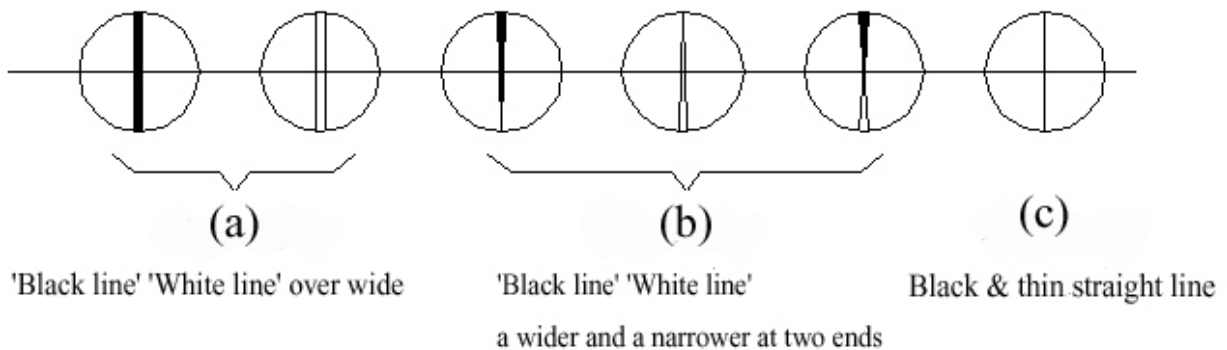

Figure 7
The separation line should be a thin, black and straight, as is shown in Figure 7-(c). Turning the Separation Line Adjusting Knob (13) can move the comparison line continuously to have a single, cutting or overlapping view field.
If the separation line appears as is shown in Figure 7-(a) or Figure 7-(b), this means the line has changed out of shape and needs to be adjusted by the following steps:
1. Insert the screwdriver that comes with the microscope into the screw slit in the calibration hole (21).
2. Observe the separation line through the eyepiece and slightly rotate the screwdriver until separation line is in the shape as shown in Figure 7-(c).
- a. If the separation line is like in Figure 7-(a), adjust the screw in the right hole.
- b. If it is like the line in Figure 7-(b), adjust the screw in the left hole.